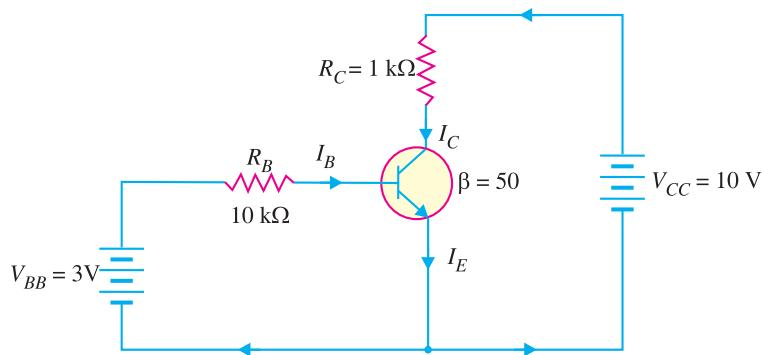

Fig. 8.54
**Example 8.33.** Determine whether or not the transistor in Fig. 8.54 is in saturation. Assume  $V_{knee} = 0.2V$ .